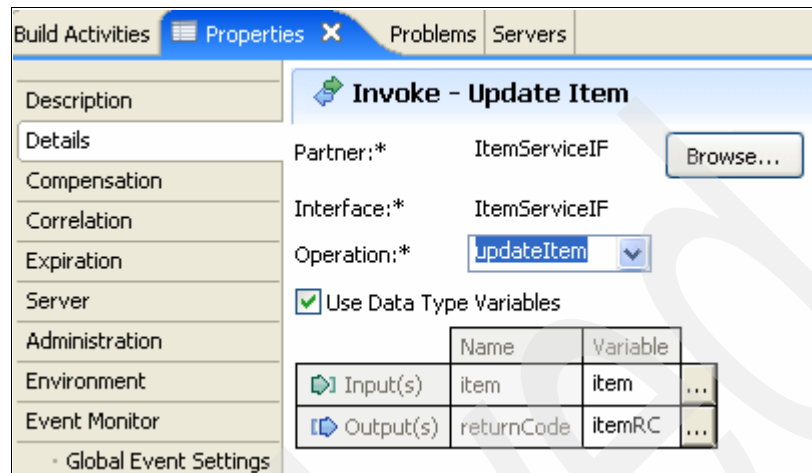

Figure 3-174 Invoke Update Item
4. Add another Invoke activity Update Order -- CONFIRMED. Name the activity Update Item, and set the Invoke Details as shown in Figure 3-174.